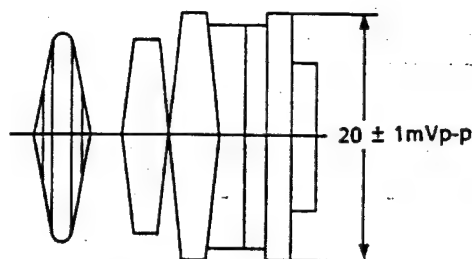

Figure 2-14.
- c) Adjust R518 (recording chroma control) to that the red level be $20 \pm 1\text{mVp-p}$ as shown in Fig. 2-14.